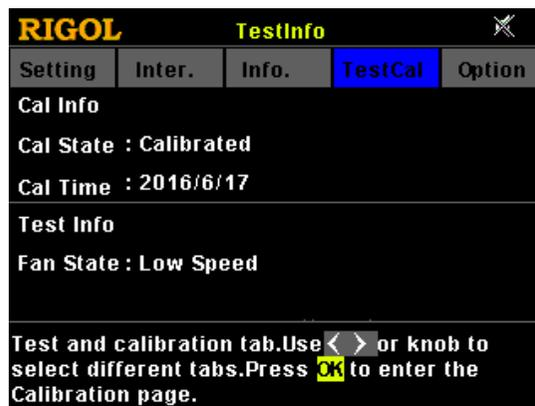

Figure 2-1 "TestCal" Tab
- (1) Warm up DP700 series for at least 30 minutes.
- (2) Press **System** to enter the system utility function interface. Press the Left/Right arrow key or use the knob to select the "TestCal" tab, as shown in Figure 2-1.